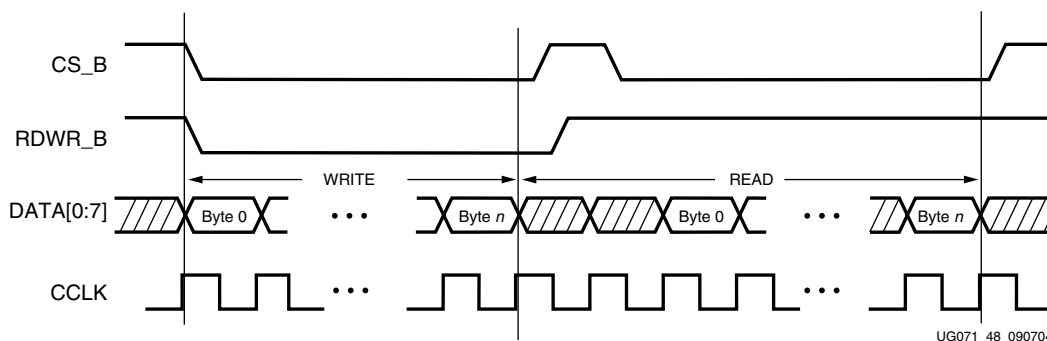

Figure 8-1: Changing the SelectMAP Port from Write to Read Control
4. This procedure is illustrated in Figure 8-1.